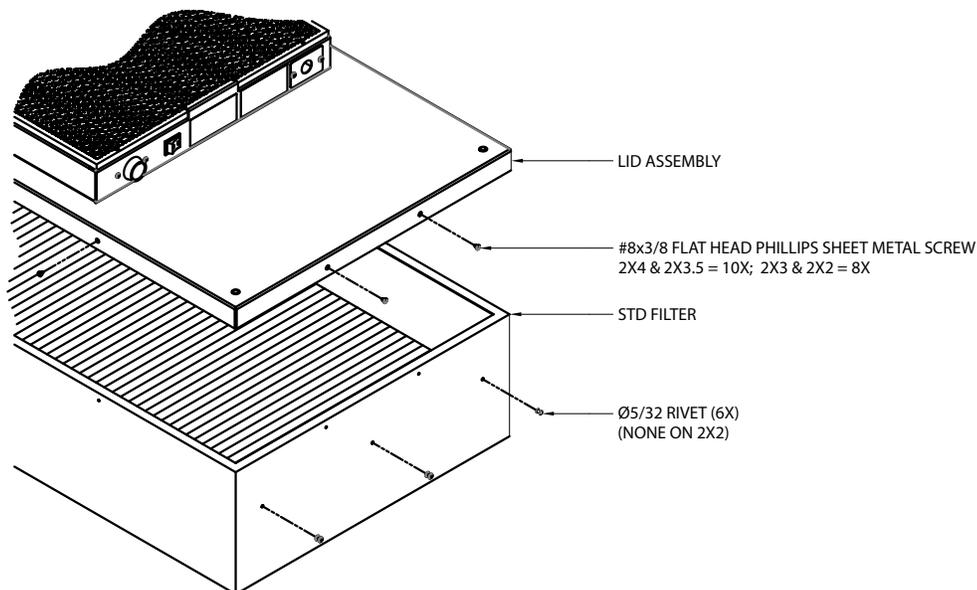

Figure 4: Standard Filter Replacement
Step 3. Lift the lid assembly off the HEPA/ULPA filter. (See Figure 4.) Discard the used filter as per requirements of the applicable regulations. Carefully install the filter deflectors into the new filter using the 5/32 rivets. Do not touch or place the filter deflectors on the HEPA/ULPA media pack. This could cause tears in the filter pack.